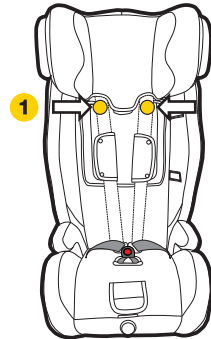

Figure 2
**Step 1:** Unclip the press studs location 1 (refer Figure 2).